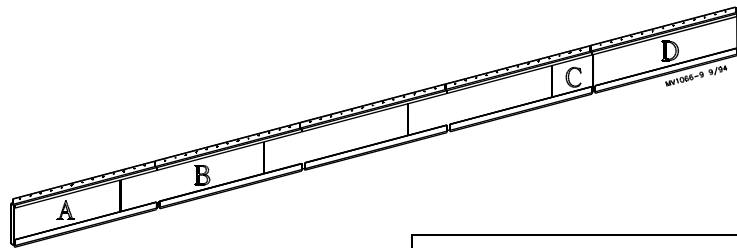

Figure 3.
4. Remove the styrofoam from the first baffle section. Cut approximately 12 inches (30.5 cm) off one end of the styrofoam section. Reinstall the 36 inch (91.4 cm) section of styrofoam to the first baffle section. See Figure 3 (section A).
Legend: Figure 3
Repeat this procedure for each baffle section except the last two sections. See Figure 3 (sections C & D)
6. Install the 12 inch (30.5 cm) section cut out in step 4 in the next to the last baffle section. The last section operate with, but, will not be connected to, the rest of the baffle board sections. See Figure 3.